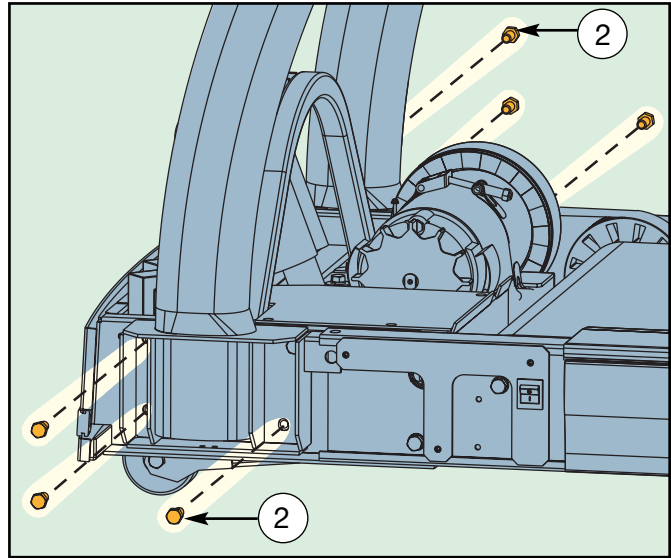

Figure 5
- B.** Using a 9/16" socket wrench with a 4" extension, attach the uprights with six of the 3-8-16 x 5-8 hex head whiz-lock screws. **NOTE:** Do not securely tighten the screws until step 7C. See Figure 5.